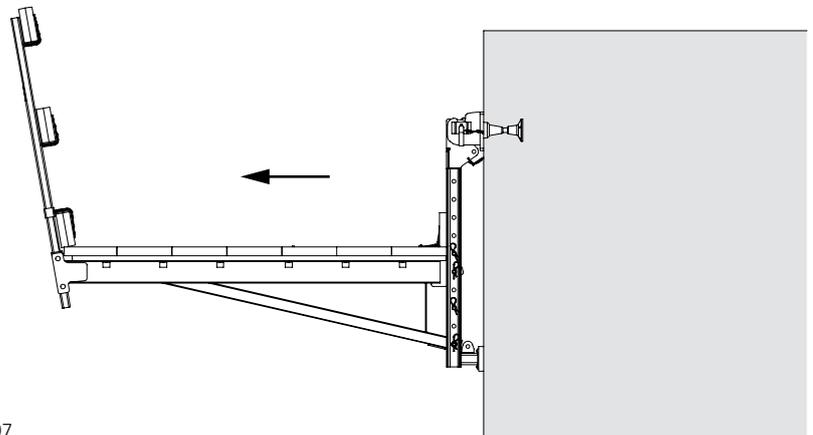

Fig. C3.07
- Dismantle and remove the Platform Unit. (Fig. C3.07)